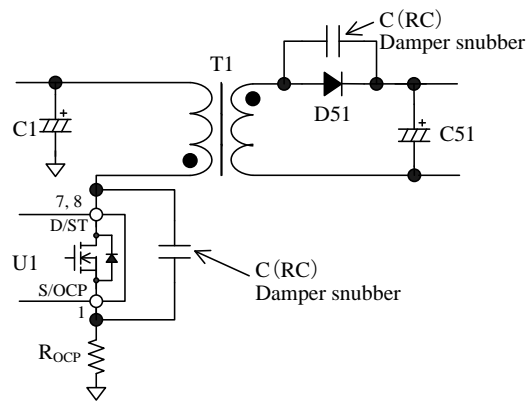

Figure 9-15. Damper Snubber
In addition, if a C (RC) damper snubber of Figure 9-15 is used, reduce the capacitor value of damper snubber.